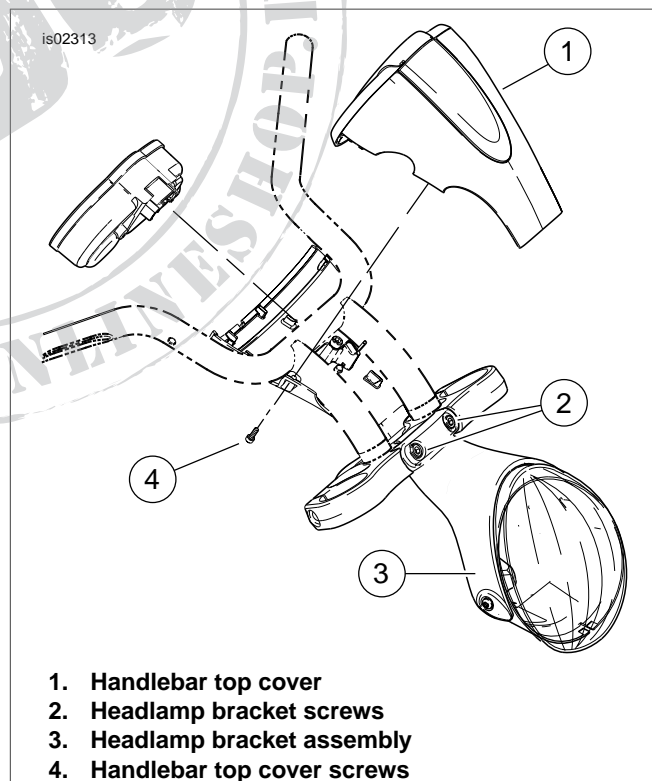

Figure 1. Headlamp and Handlebar Top Cover Hardware
- b. See Figure 1. Remove the two mounting screws securing the headlamp bracket to the upper triple clamp and remove headlamp assembly. Save hardware.